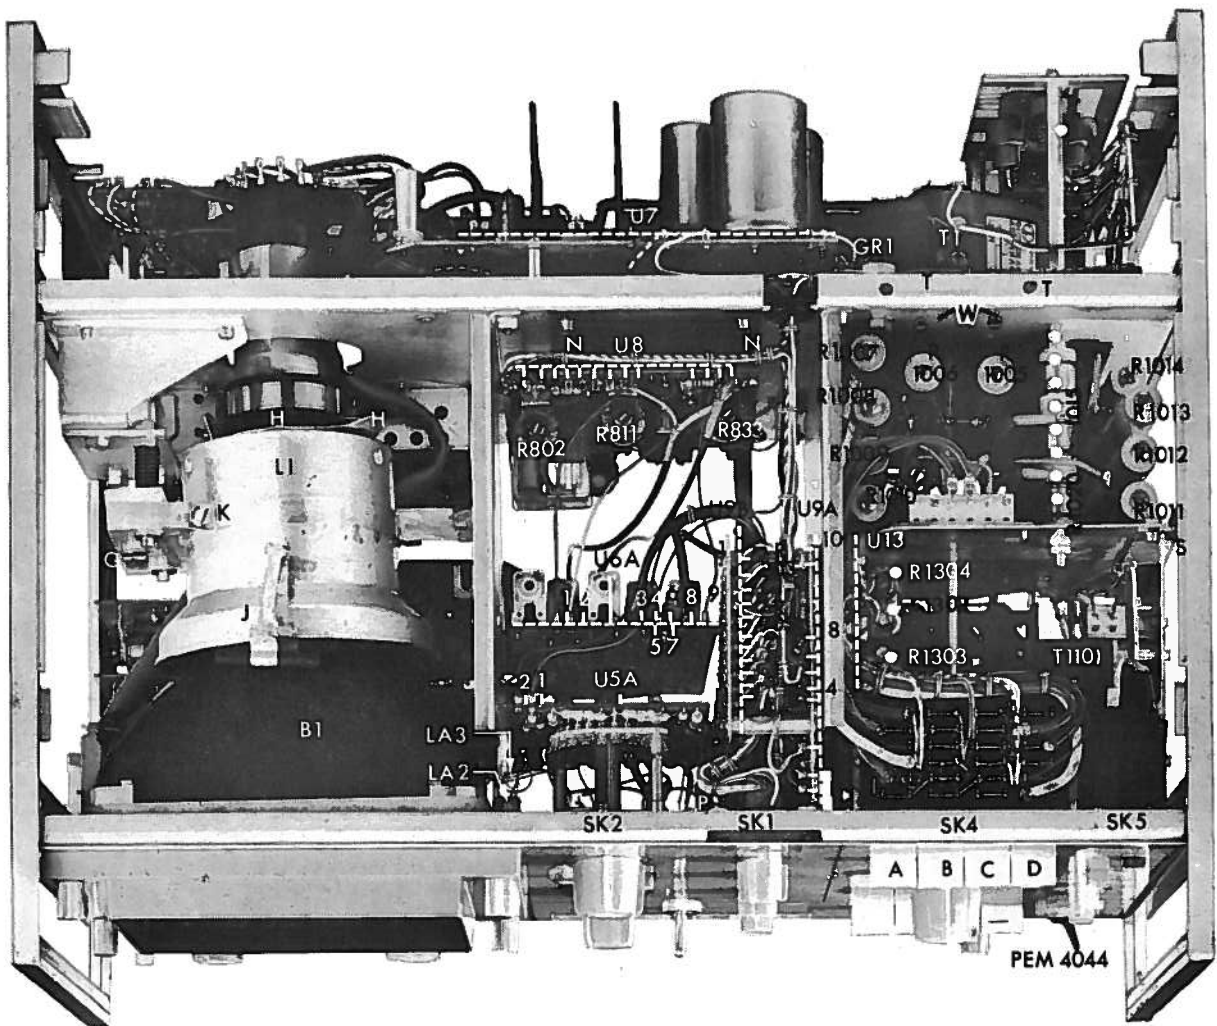
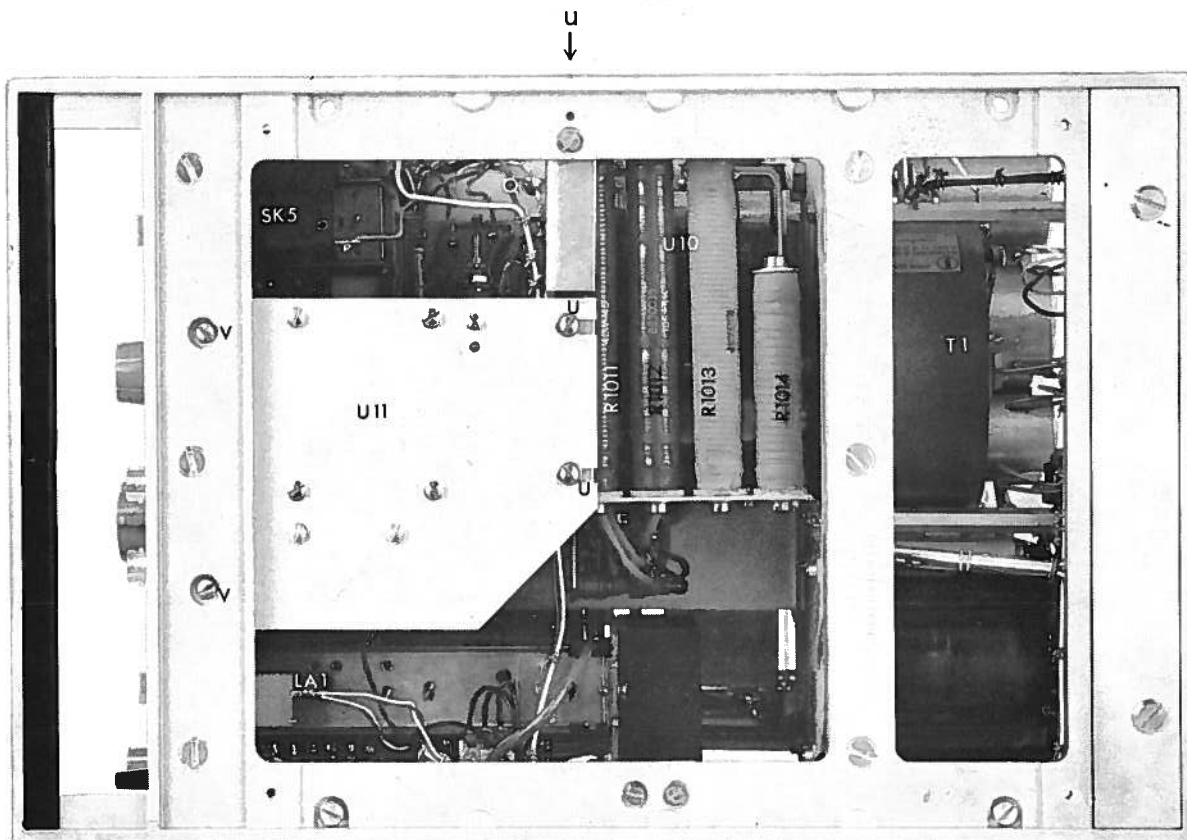
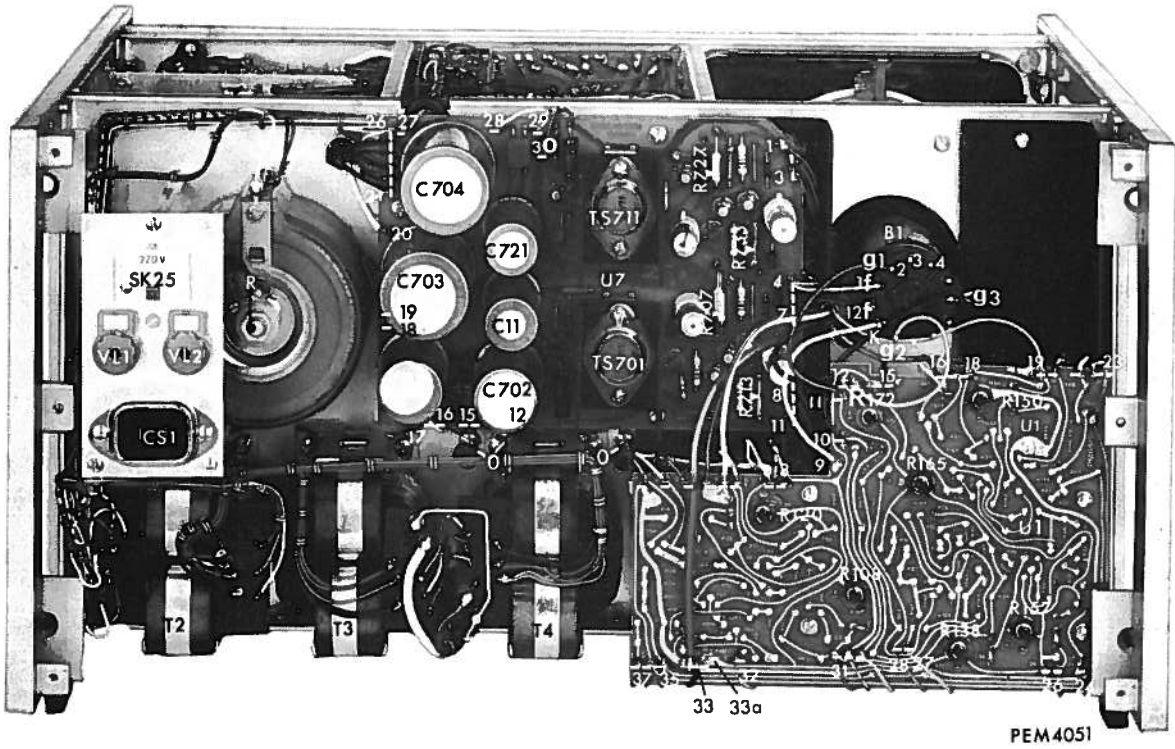

Fig. 63. Top view
Fig. 71. Side view right
Fig. 73. Rear view (rear panel taken off)
- Remove screw K (Fig. 63).
Remove the rear panel. Remove 2 screws N (Fig. 63) and loosen 2 screws O. Unsolder the connection wires. When the unit is slightly pushed down, the screws can be removed from the bayonet holes.
Remove the top plate, and then remove unit U5. Remove the knobs, the fixing nuts of SK3, SK8 and R902 as well as the knurled nut of SK6. Remove screw P (Fig. 63) and loosen screw Q (Fig. 71). Unsolder the wires, slide the unit backwards and take it out.
Remove the bottom plate, the top plate and the rear panel. Loosen fixing nut R (Fig. 73) and pull out the spindle and knob of T1. Loosen the spindle coupling of SK12 (accessible from the top) and pull out the spindle. Remove the two screws T (Fig. 63) at the base plate of U10 and loosen screws S (Fig. 63). Unsolder the connection wires and lift out the units.
Remove three screws U (Fig. 71) as well as screws S (Fig. 63) and take out the angle support.
Remove the two screws V (Fig. 71) the EHT unit can now be taken out.
Remove the top-panel, the cover-plate of the mains-fuses and loosen the mounting plate which has been fitted with the three screws. Remove screws Y (Fig. 63). Loosen tightening nut R (Fig. 73) and pull out the spindle of T1. Unsolder the connection wires of T1. Loosen the two hexagon screws W (Fig. 63) by means of a spanner (7 mm). The transformer can now
Remove the right-hand side panel (Fig. 71). Pull out the lamp holder in backward direction.